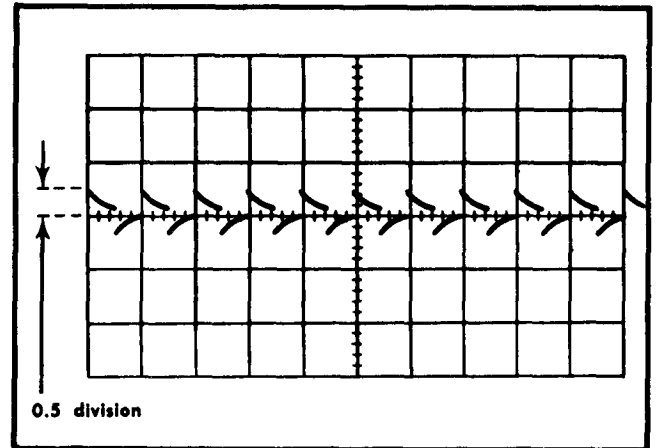

Fig. 5-32. Typical CRT display when checking calibrator current.
e. CHECK-CRT display 0.5 division in amplitude (five milliamperes; see Fig. 5-32).